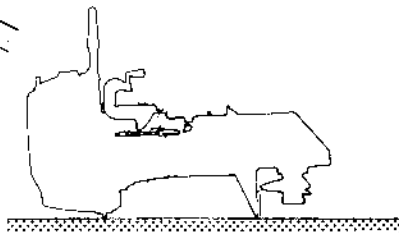

Fig. 43
- 4) Rest the motor on the ground with the handles facing upward. (Fig. 43)